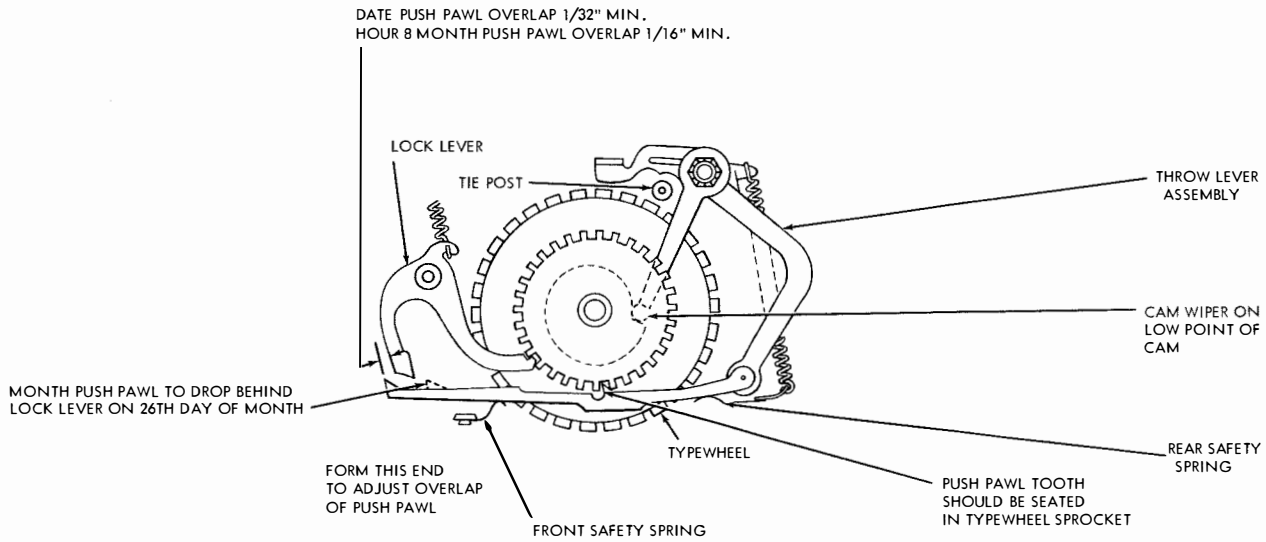

Figure 7-15. Push Pawl
(1) **HOUR AND MONTH PUSH PAWL.** (See figure 7-15.)—The ends of the hour and month push
(2) **DATE PUSH PAWL.** (See figure 7-15.)—The date push pawl should overtravel its lock lever a minimum of 1/32 inch when in its forward position. Adjustment is the same as for the hour and month push pawls as described in (a) above.
(6) MONTH CAM WIPER ARM. (See figure 7-15.)—The month push pawl should drop in back of its lock lever on the 26th day of the month. To check and adjust, follow the procedure described in sub-paragraph (5) above.
(7) MONTH THROW LEVER SPRING TENSION. (See figure 7-15.)—The spring should be strong
(8) DATE THROW LEVER SPRING TENSION. (See figure 7-15.)—The spring should have enough tension to drive the typewheel from the 28th day of February to the 1st of March positions. If this condition is not met, replace the spring.
(9) HOUR THROW LEVER SPRING TENSION. (See figure 7-15.)—The spring should advance the hour typewheel when the throw lever is operated slowly by hand. Check throughout a complete revolution of the wheel. Replace the spring if the typewheel operates too slowly.